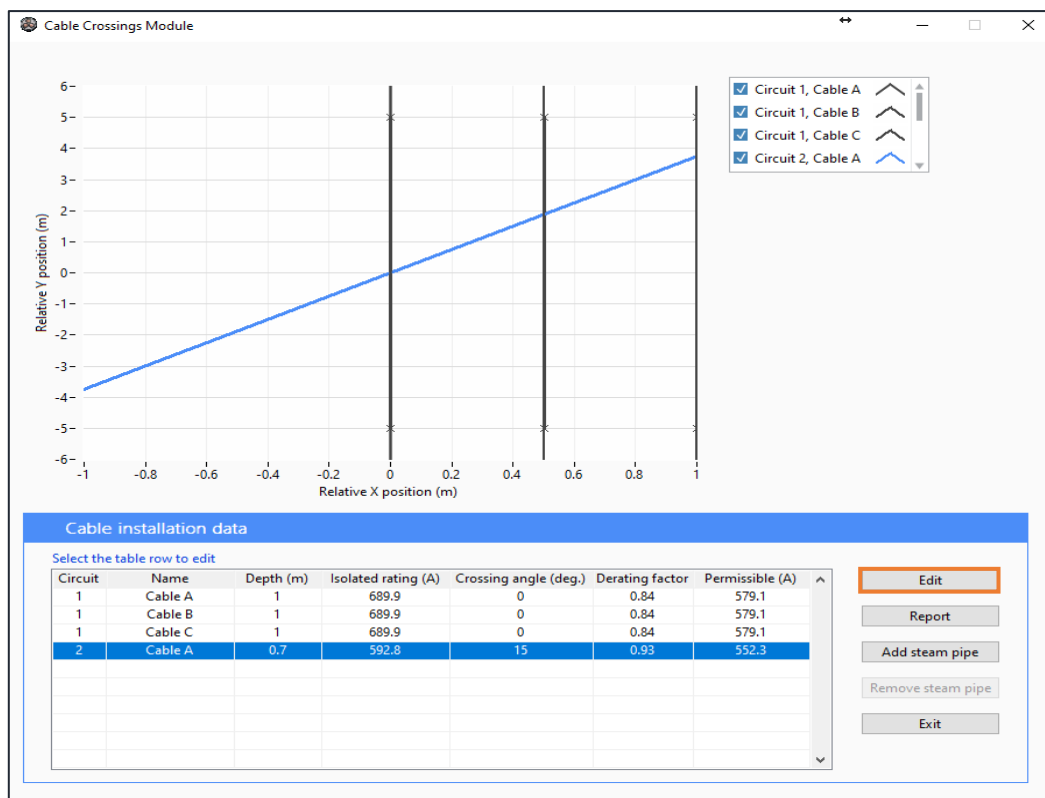

Figure 7 – Cable Crossings top-down module window at 15°
- ③ To use the Cable Crossings module, the **Isolated ratings** button must be selected. Once selected, the cable cross angle can be altered. As per Figure 7, click on **Cable A** of circuit 2. Click the **Edit** button to change the cross angle. For this example, a value of 15° is selected initially.
On the **Cable Crossing Module** as per Figure 7, click the **Report** button to generate a PDF report containing the cables' ratings, results and a cable cross diagram. – PDF generated data shows the type of data compiled by the PDF report.